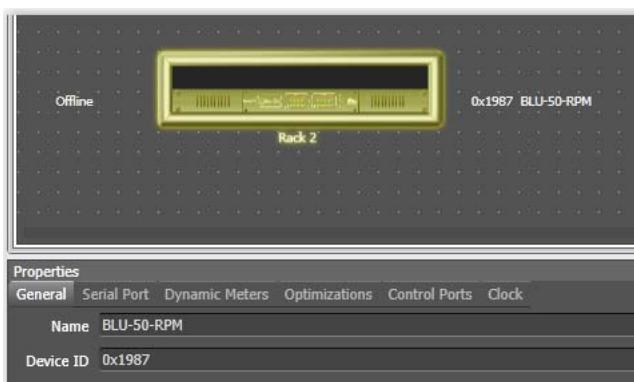

FIG. 5 BSS Audio Architect software application - Main Properties (Example Node Address = 0x1987)
1. The BLU-50 device must be assigned a HiQNet Node Address in the Audio Architect application which matches the Device ID assigned on the RPM application's ATC page. This is the node address which should be saved in the configuration file, and you must make sure that this address replaces the node address in your BLU-50 device (FIG. 5) when it is programmed.